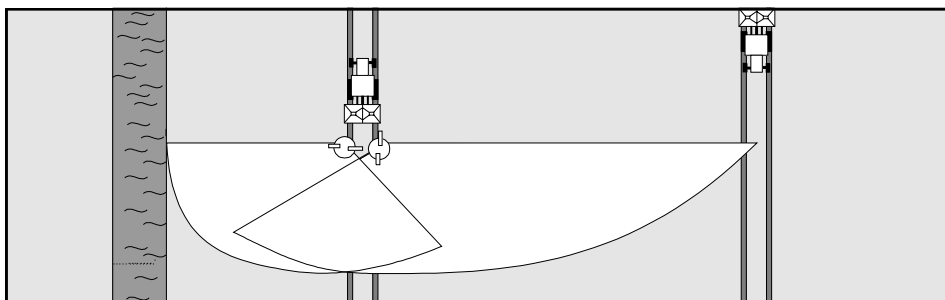

Fig. 7.7
For boundary spreading (according to the draft of fertiliser application decree) (Fig. 7.7) resp. **spreading to field sides** (beside owned, equally to be treated areas) (Fig. 7.8) **exchange** the **left hand "Omnia-Set"** spreading disc (left hand side border spreading - normal case), seen in driving direction, **for** the corresponding border spreading disc **"Tele-Set"**. For right hand border spreading a special border spreading disc is available on request.
7.4.1.1 Boundary spreading according to the fertiliser application decree (Fig. 7.7)
7.4.2 Setting the border spreading disc according to fertiliser decree (Fig. 7.7)